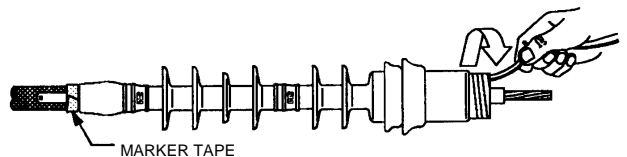

Figure 6
3. Slide the termination body onto the cable, aligning the base with previously applied marker tape (**Figure 6**).
4. Remove termination core unwinding counter-clockwise starting with the loose end. Make sure the termination body is butted up to the edge of the marker tape (**Figure 6**). **TIP:**